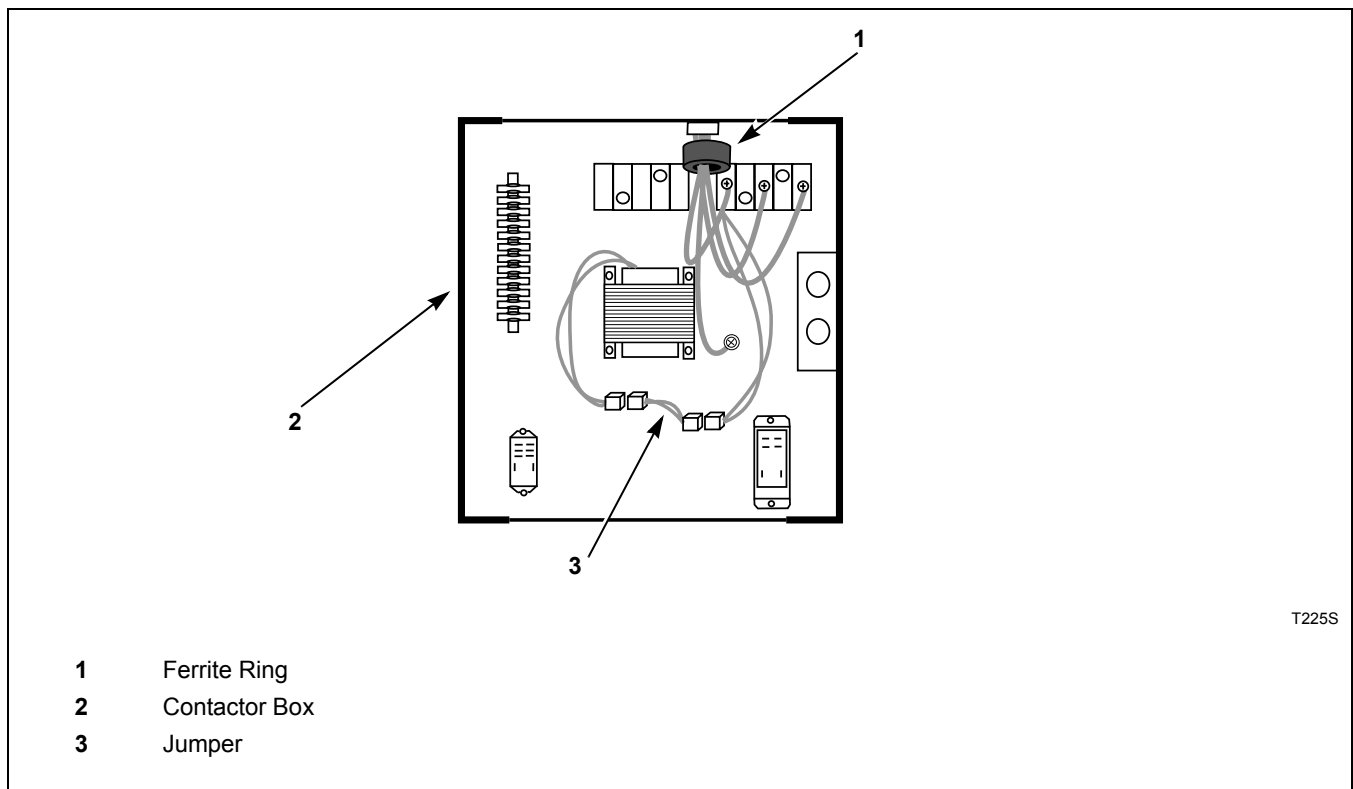

Figure 22
2. Snap the ferrite ring closed over all the service leads inside of the contactor box as shown. It is important that the ferrite ring be installed inside the contactor box. Refer to *Figure 22*. Do not install the ferrite outside of the box or other area. Make sure that service leads are in the center of the ferrite before closing the ring so as not to pinch or damage leads.